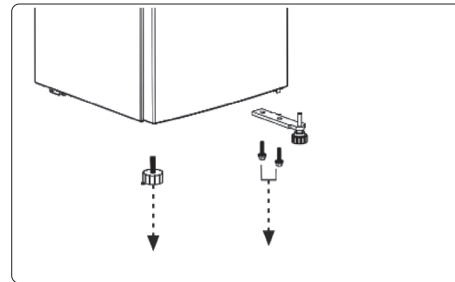

fig.3
- 4. Remove the screws that secure the lower hinge of the right side of the cabinet (fig.3), then remove the hinge. Remove the adjustable foot to the left.